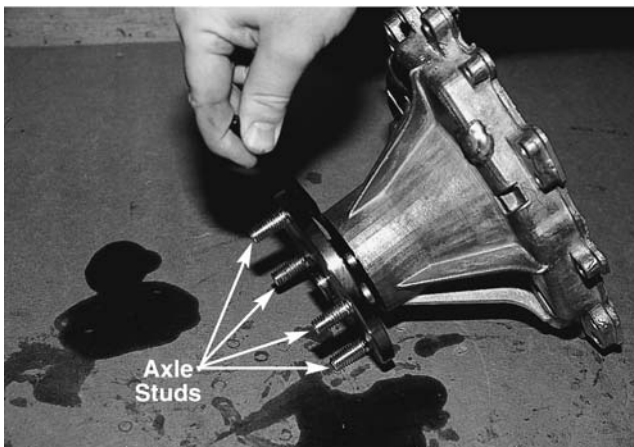

Figure 10-60.
20. If a stud becomes loose or broken and needs to be replaced, it is important to properly support the axle during this procedure in order not to put undue stress on the bearing. See Figure 10-60.